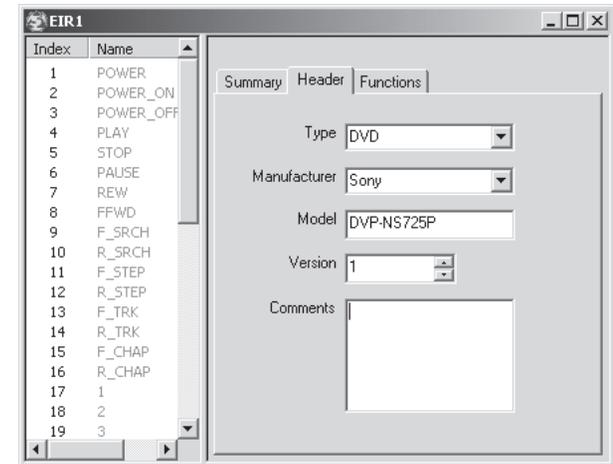

Figure 4-19 — Creating a new driver
3. Edit the Header fields (figure 4-19), the most important of which is Type. The driver will be populated with a default set of commands according to the selected device type. A device type of “Other” creates an empty driver with no functions.